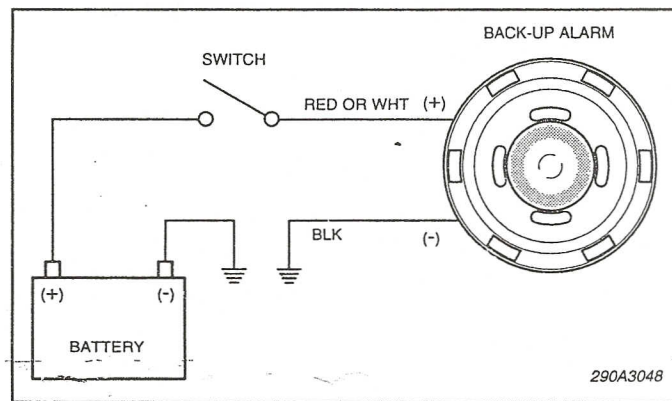

Figure 3.
1. See figure 3. Connect the red (or white) wire to the vehicle's backup light circuit, or to an independent actuating switch.